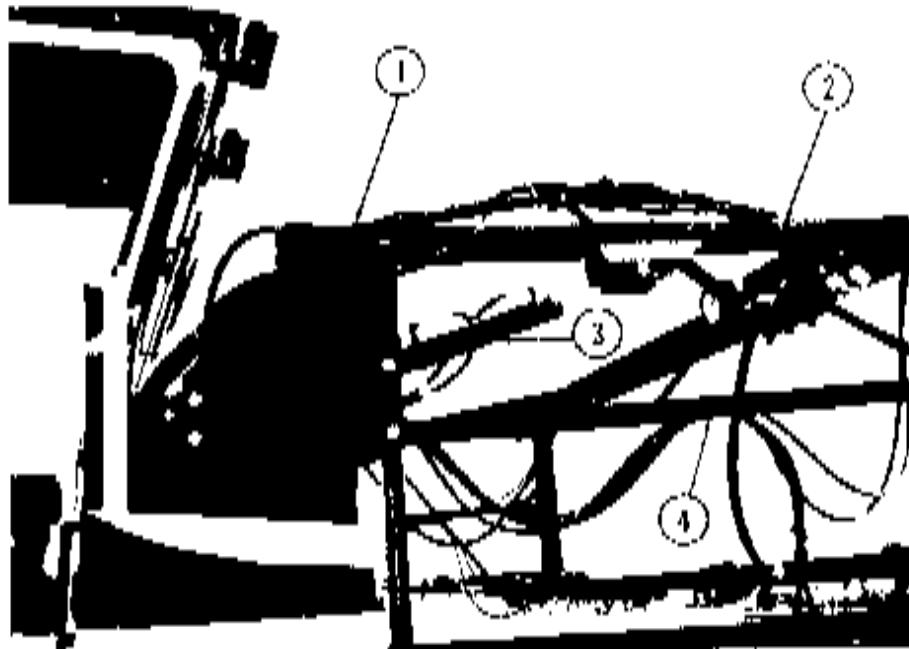

Figure 1
1. First, attach right hand (Item 1) and left hand (not shown) lift arm mounts; tighten all bolts. See Figure 1.
2. Install upper lift arm weldment (Item 2) to lift arm mounts (Item 1), using proper bushings and bolts provided. See Figure 1.
3. Install left cylinders (Item 3), using correct bushings and bolts. See Figure 1.
4. After installing the left cylinders, install two lower lift arm weldments (Item 4), using correct bushings and bolts. See Figure 1.